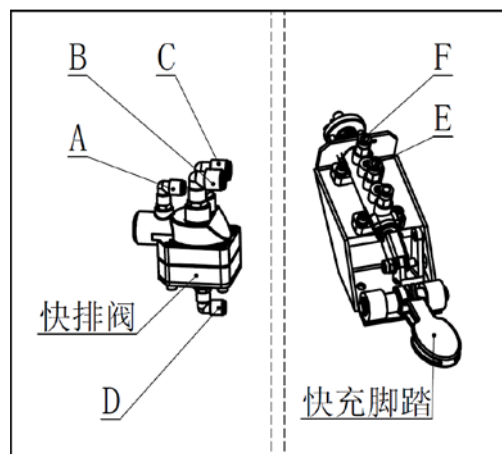

FIG 7
- c) If the machine has the air tank (FIG2-20), connect the holes FIG7-A to FIG6-2.
- d) Connect FIG7-D to FIG7-F.
- e) Connect FIG7-E to FIG6-2. (The "hole" FIG6-2 is the TEE)